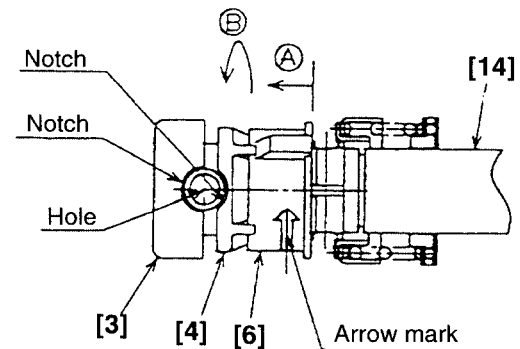

Fig. 10
Apply Doubrex 251 grease (Code No. 971042) to the inner circumference of Holder Sleeve (B) [4] and the cam groove of the Plunger [14]. Insert the tip of the Plunger [14] into Holder Sleeve (C) [6], Holder Sleeve (B) [4] and Holder Sleeve (A) [3] in order. Next, align the hole of the Plunger [14] with the notches of Holder Sleeve (A) [3] and Holder Sleeve (B) [4] as shown in Fig. 10. Insert the Holder Pin [1] (together with the Spring (B) [2]) into the hole and push it in. Slide Holder Sleeve (B) [4] and Holder Sleeve (C) [6] forward and turn them about 90° clockwise viewing from "A". Insert the two Steel Balls D4.76 [5] (use the arrow marks shown in Figs. 10 and 11 as the reference). Insert the other end of the Plunger [14] into the Guide Washer [7], Dust Washer [8], Spring (A) [9], Washer (E) [10], Thrust Bearing [11] and Washer (D) [12] in order. Mount the Retaining Ring (E-type) for D14 Shaft [13] securely by adjusting Spring (A) [9]. Be careful of the projections and depressions on Holder Sleeve (B) [4] and Holder Sleeve (C) [6] when mounting. After reassembly, test-mount and remove a saw blade to check for proper operation.